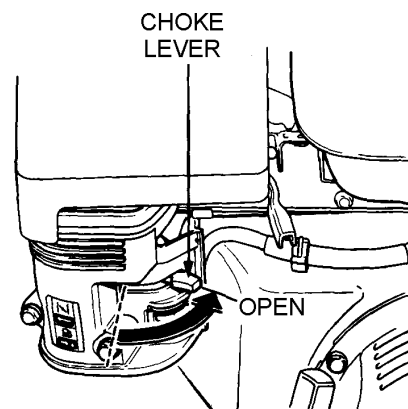

Figure 8. Engine Choke Lever (Open)
3. Place the **choke lever** (Figure 8) in the "OPEN" position if starting a **cold** engine.